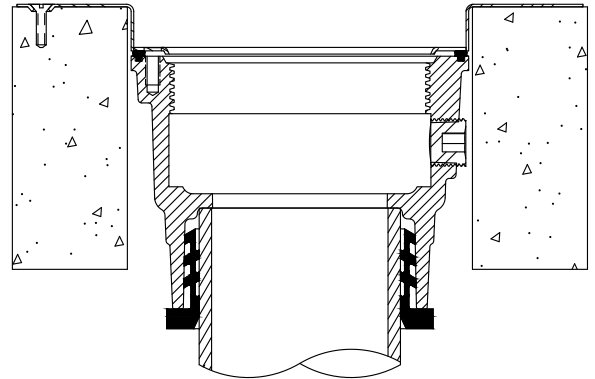

Fig. 4
4. If installing a waterproof membrane, Remove Rough-In Cover assembly. See Fig. 4